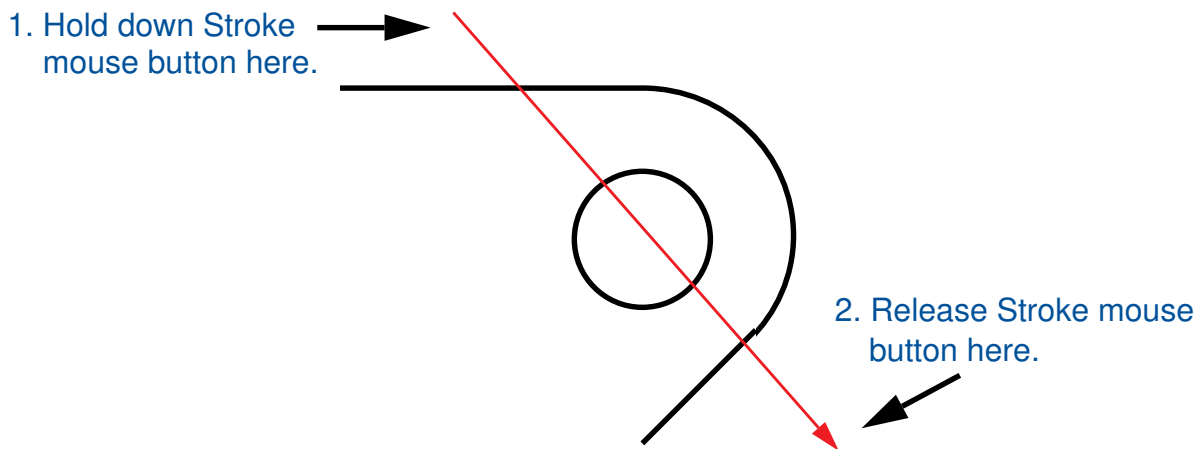

Figure 1-23. View Area Stroke
4. View only the area around the hole in the card ejector by using the View Area stroke over the hole as shown in Figure 1-23.